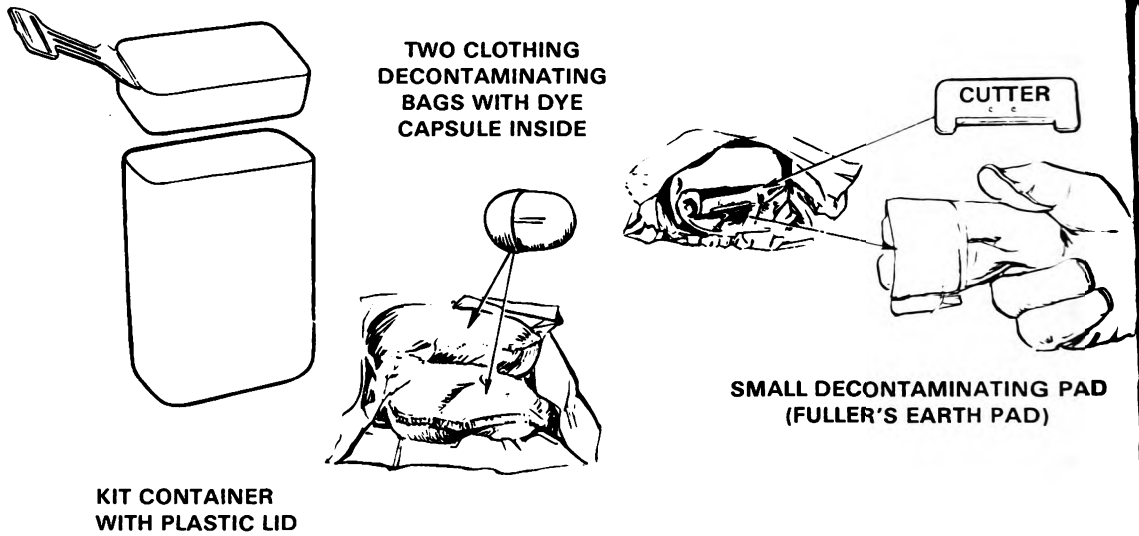

Figure 1. M13 decontamination kit.
- a. Extract the M13 kit (figure 1) from your protective mask carrier.